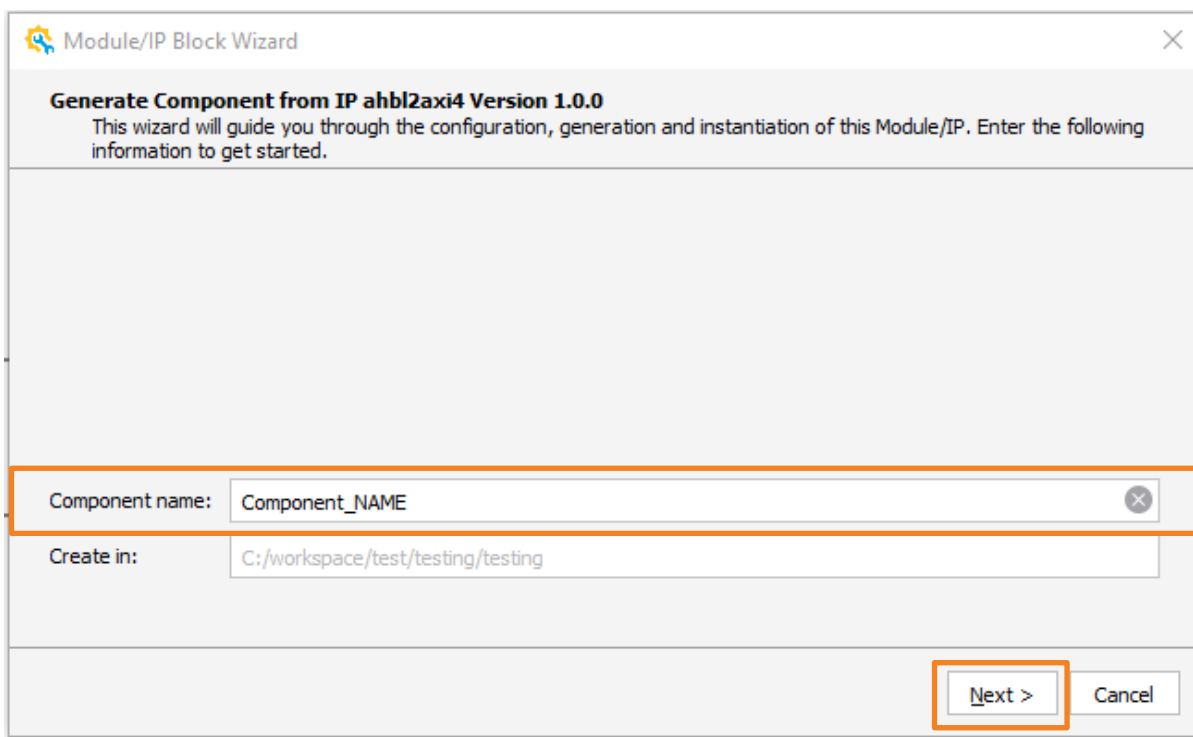

Figure 4.1 Enter Component Name
2. In the **IP Catalog** tab, double click **AHB-Lite to AXI4 Bridge** under **IP > Processors_Controllers_and_Peripherals** category. The Module/IP Block Wizard window opens as shown in Figure 4.1. Enter your desired component name in the **Component Name** field then click **Next**.